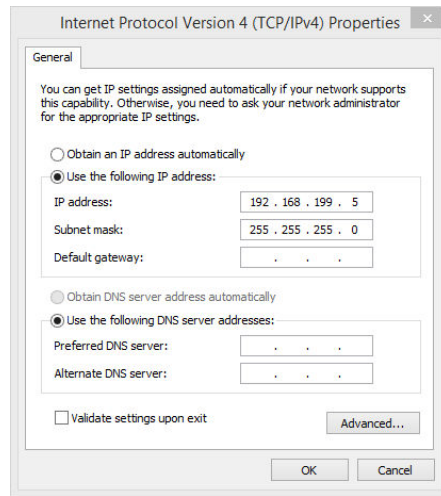

Figure 3.12 Internet Protocol Version 4
- 6 Double-click **Internet Protocol Version 4** and set values to match Figure 3.12